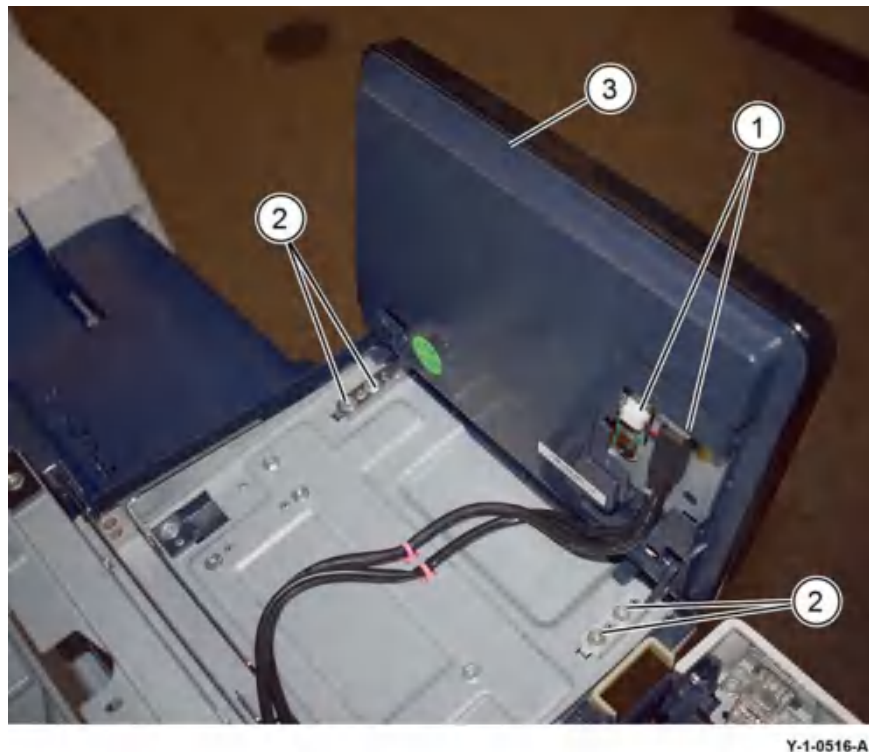

Figure 2 UI assembly removal
7. Remove the UI assembly, Figure 2:
- a. Disconnect both connectors (1).
- b. Remove 4 screws (2), then the UI assembly (3).